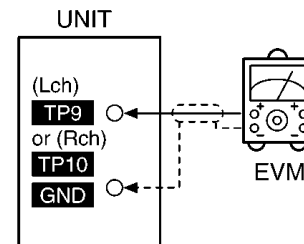

Fig.7
1. Connect the measuring instrument as shown in Fig.7.